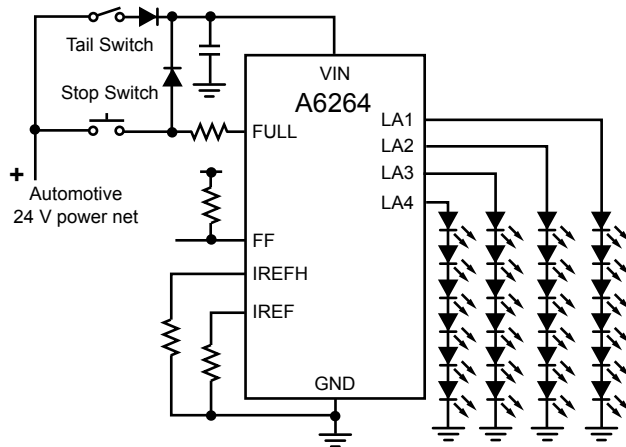

Figure 10. Higher voltage supply application.
- Figure 10 shows a typical configuration for a higher voltage supply.